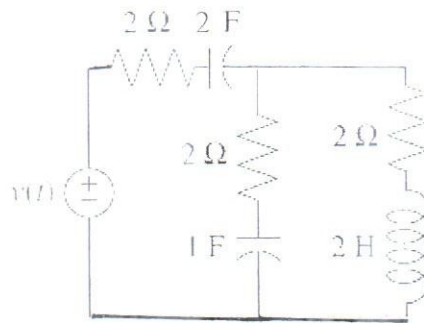

Figure 3: An electrical circuit
2. a) An electrical circuit is shown in Figure 3. Write the voltage equations for each mesh. Solve for the transfer function relating input voltage to voltage drop across the inductor. **(10 Marks)**